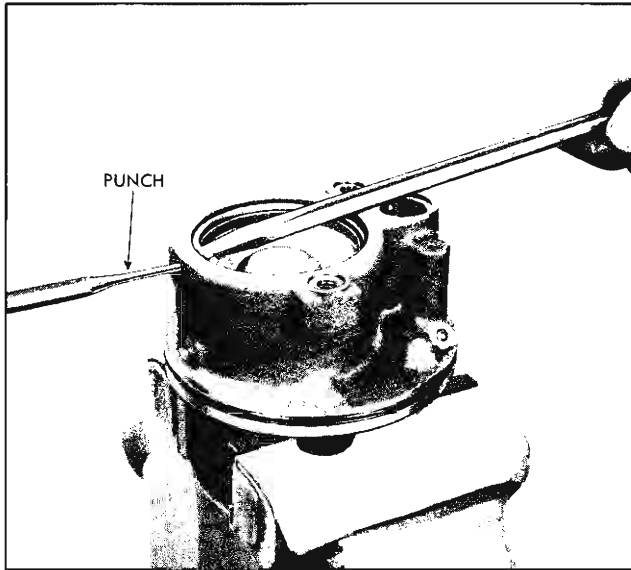

Fig. 9A-8 Removing Retaining Ring
5. Remove end plate retaining ring. Push end plate retaining ring out of groove using a punch through  $\frac{1}{8}$ " diameter hole in pump housing (Fig. 9A-8), and remove with screwdriver. End of retaining ring should be next to hole to ease removal.
level. If sticking should occur, a slight tapping action will free the plate (Fig. 9A-9).